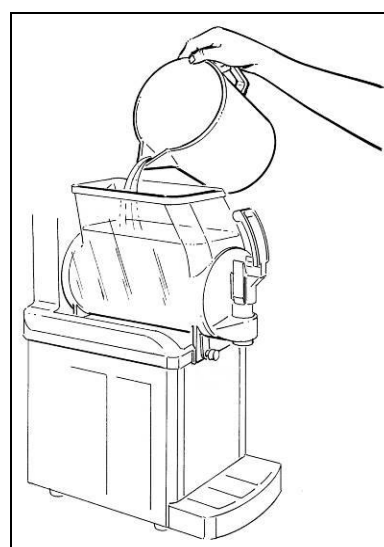

Fig. 24
- Pour the mix obtained into the bowl (see fig.24).